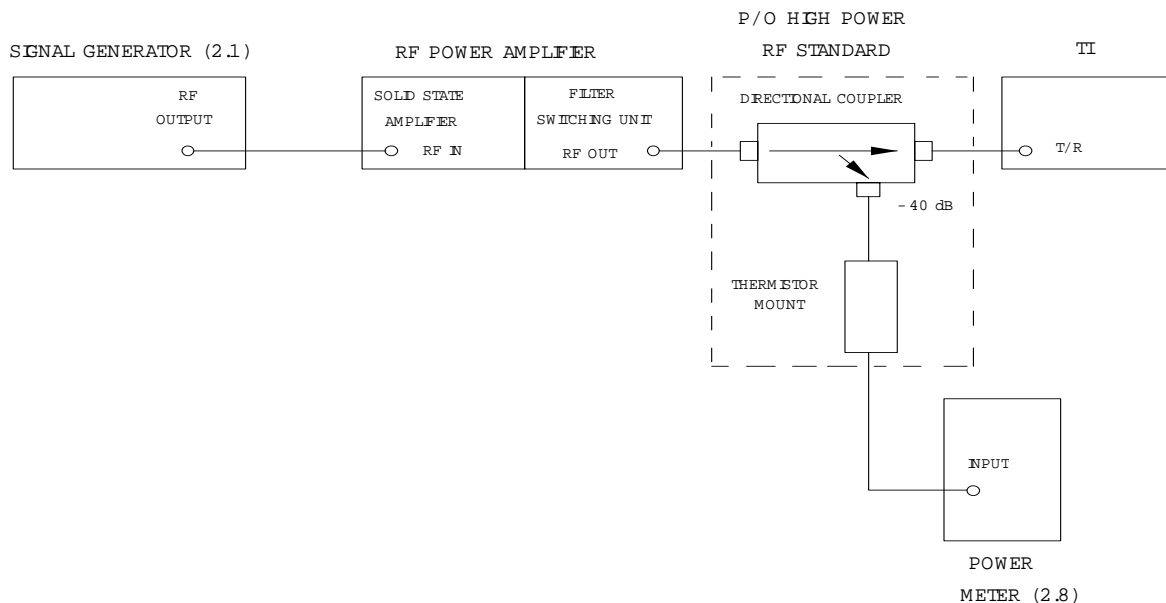

Figure 3.
4.6.2 Connect equipment as shown in Figure 3.